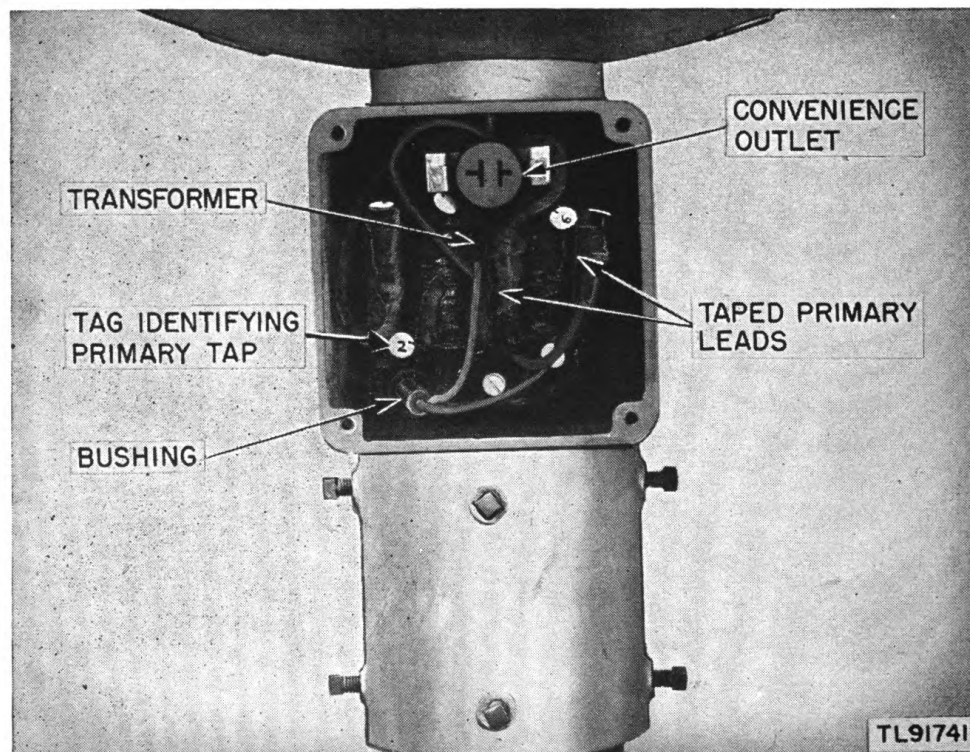
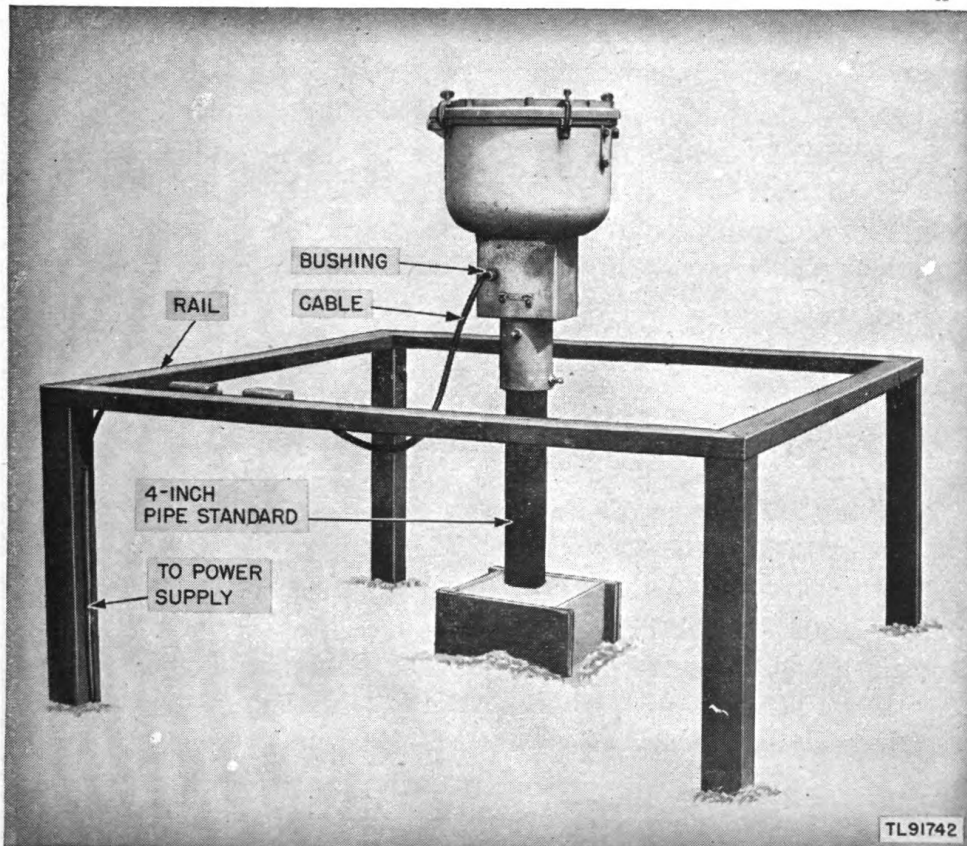

Figure 6. Ceiling Light Projector ML-121-B, supporting base, transformer-housing cover removed.
Figure 7. Ceiling Light Projector ML-121-D, installed.
*Note.* The 4-inch standard pipe is not a component of the equipment and must be furnished at the place of installation. The pipe is usually supported by a base of concrete. (See fig. 7.)
(5) Place the level on the other perch. When using Ceiling Light Projector ML-121-A or ML-121-B, place the level at right angles to its previous position on the cover glass.
(6) Use the remaining four setscrews, and repeat the operations of (3) and (4) above until the drum is level.
(7) Securely tighten all the setscrews gradually. Check the level on both perches to make sure that the horizontal position remains unchanged.
(8) Tighten the locknuts which are provided on four of the screws. These locknuts are not provided on Ceiling Light Projectors ML-121-A and ML-121-B. The projector is now level so that the beam will be directly vertical.
*Note.* Construct a rail around the ceiling light projector to protect it. (See fig. 7.)
(3) Place the spirit level on one of the leveling perches.
(4) Use two setscrews which are on opposite sides of the slip fitter and are in a position parallel to the perch on which the level is placed. Manipulate these screws until the level indicates that the drum is exactly horizontal in this plane.
(5) Tighten the screws against the pipe.
(6) Mount the level on the other perch, and repeat the operations of (3) and (4) above with the remaining setscrews.
(7) Check the first adjustment to make sure that it was not disturbed during the second setting.
(8) Securely tighten all four of the setscrews against the pipe. Turn the check nuts tightly against the casting to prevent the setscrews from becoming loose.
a. Connect the 2-wire supply line from the control switch of the power supply to the cable which projects through the bushing on the back of the transformer housing. (See fig. 7.) Unless special connectors are provided for making this connection, splice the power line to the cable; solder the joints; and wrap them with both rubber and friction tape. (See fig. 6.)
*b. SPECIAL PRECAUTIONS FOR CEILING LIGHT PROJECTORS ML-121-A AND ML-121-B.* (1) Tape the four unused transformer leads. (See fig. 6.) *Be sure that the power switch is turned off.*